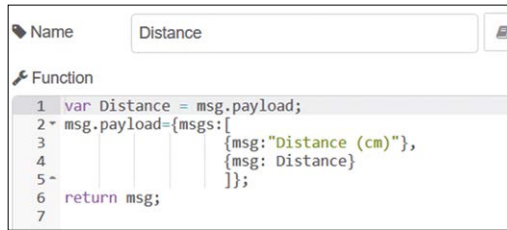

Figure 6.36 Configure the function node
- Create a **function** node and name it as **Distance**. Enter the following statements into this node (see Figure 6.36). Here, variable **Distance** is loaded with the actual measured distance in centimeters. The first row of the LCD displays a heading, while the second row displays the measured distance. Click **Done**: